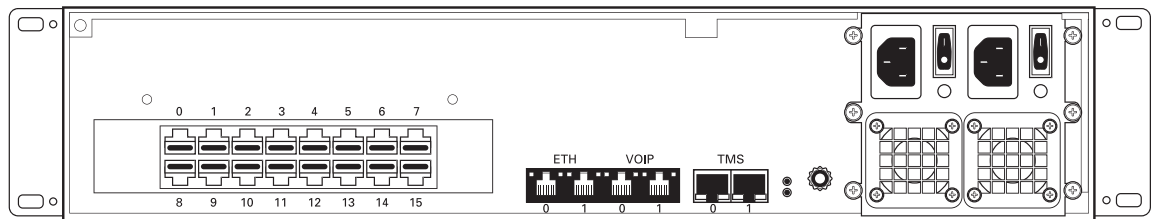

Figure 2.5
1. Start with port 0 located at the top and leftmost position. Connect one cable between this port and the T1/E1 line. See figure 2.5 on page 19.